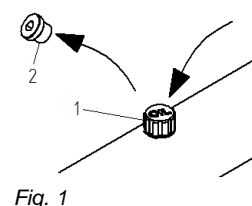

Fig. 1
- Replace the screw plug (2) with the vent plug (1) (refer to Fig. 1)